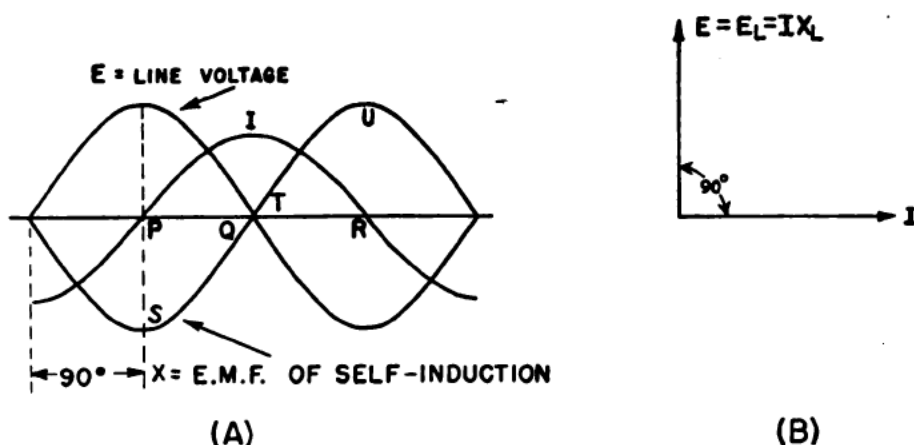

Figure 59.—Current and voltage relationship in inductive circuit.
Look at figure 59 (A), which shows the voltage curve, current curve, and inductance curve for an a-c circuit containing pure inductance with no resistance. Notice that the current curve, I , is at maximum rate of change at point P , where the current changes from negative to positive. So that's where you'd expect **MAXIMUM INDUCTANCE** or resistance to change. And since the current is changing from negative to positive, you'd expect the induced emf to
The LINE VOLTAGE, E , has to overcome the inductance emf, or no current will flow in the a-c circuit. Hence, curve E of line voltage will be equal in value to curve X of inductance, but will oppose it in order to cancel it out. Thus, in figure 59 (A) curve E is maximum POSITIVE at the instant that curve X of inductance is maximum NEGATIVE. Both are zero together, and E is maximum negative when X is maximum positive. Curve E is 180° out of phase with curve X .
Now you can see that your imaginary circuit which contains only inductance, with no resistance has its voltage LEADING the current by 90° . So you can draw the vector diagram of figure 59 (B), with arrow E leading arrow I by 90° .